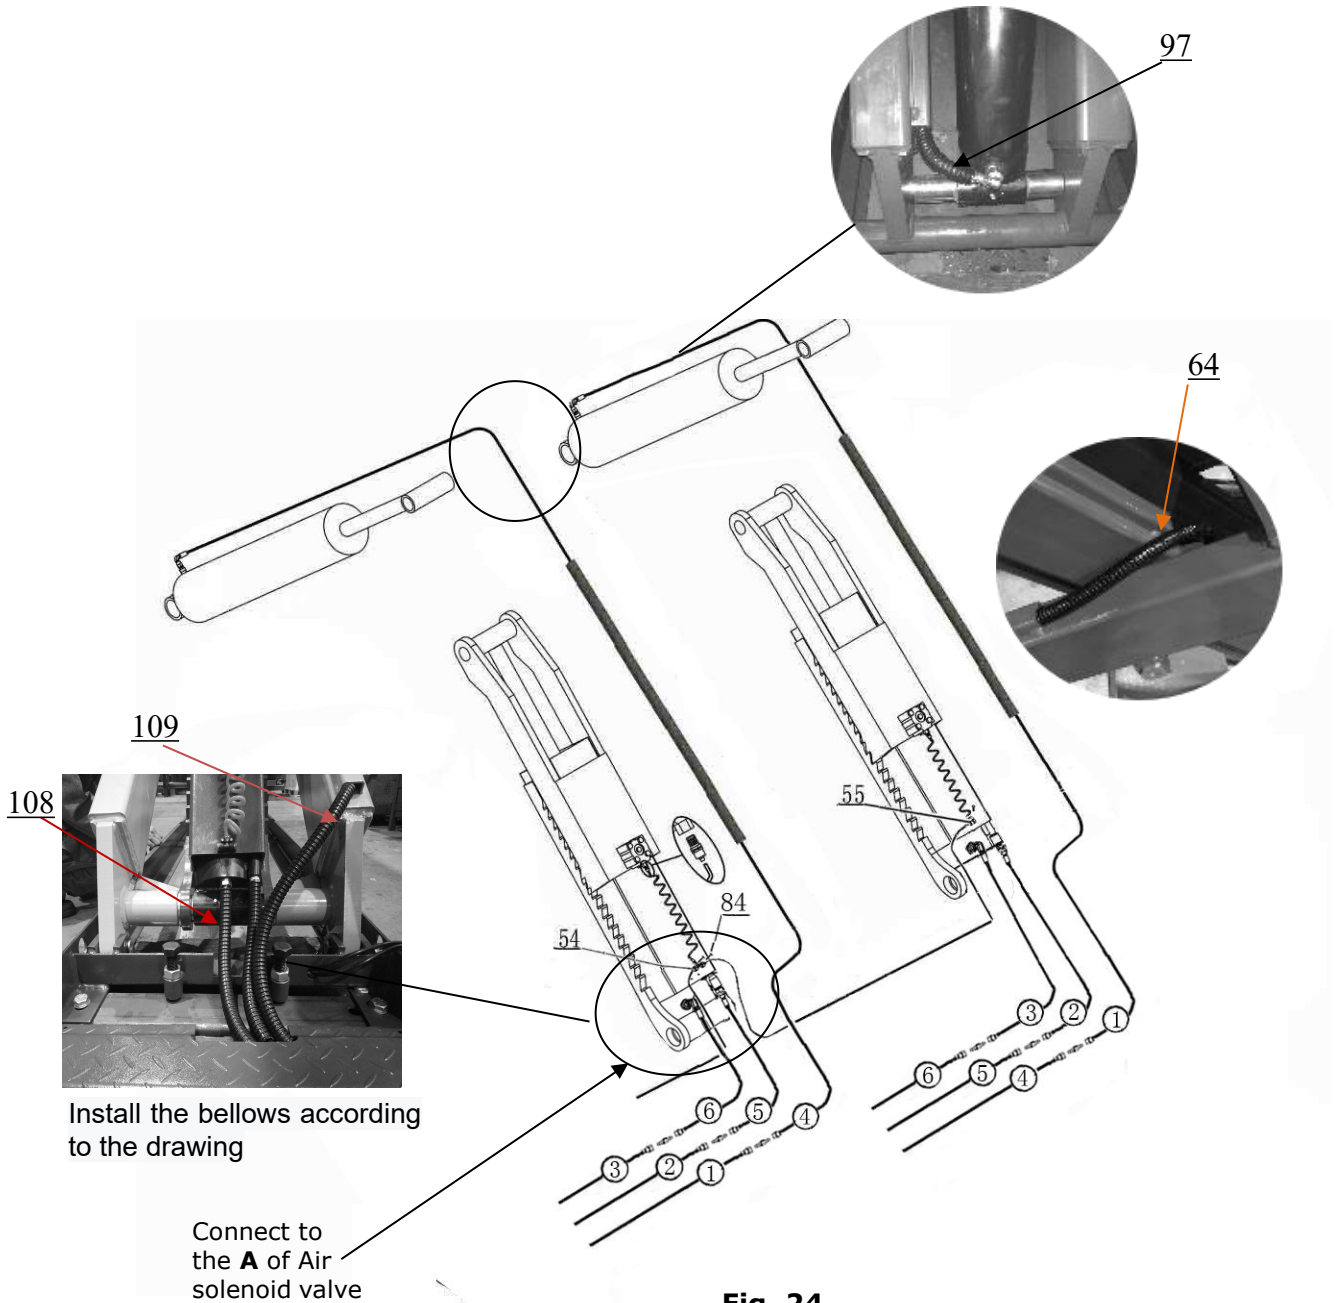

Fig. 24
2.2 Control cabinet installed in the right of the car in direction (See Fig. 24).